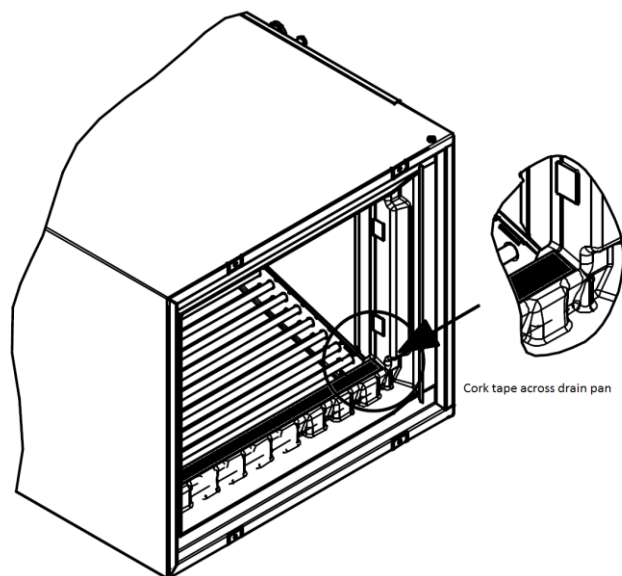

Figure 1
1. The carton includes a strip of cork tape. The cork tape is used to create an air seal between the undersides of the pan extension and in front of the vertical drain pan. See Figure 1.